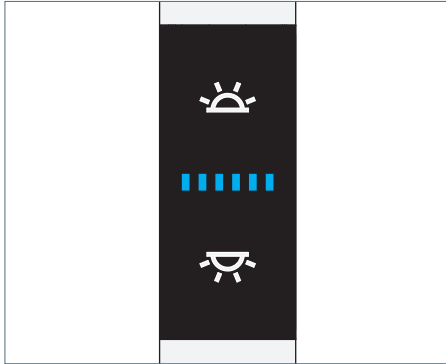

Fig. 13: Operating element.
- Press the upper switch, see Fig. 13.
- Press the lower switch, see Fig. 13.
- Press the upper switch and keep it depressed, see Fig. 13.
- Press the lower switch and keep it depressed, see Fig. 13.